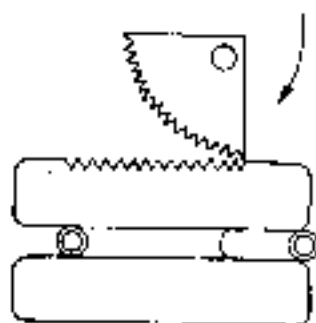

Fig. 9-10 Installation of
4.2 REMOVAL AND INSTALLATION OF WIPER MOTOR (See Fig. 9-10)